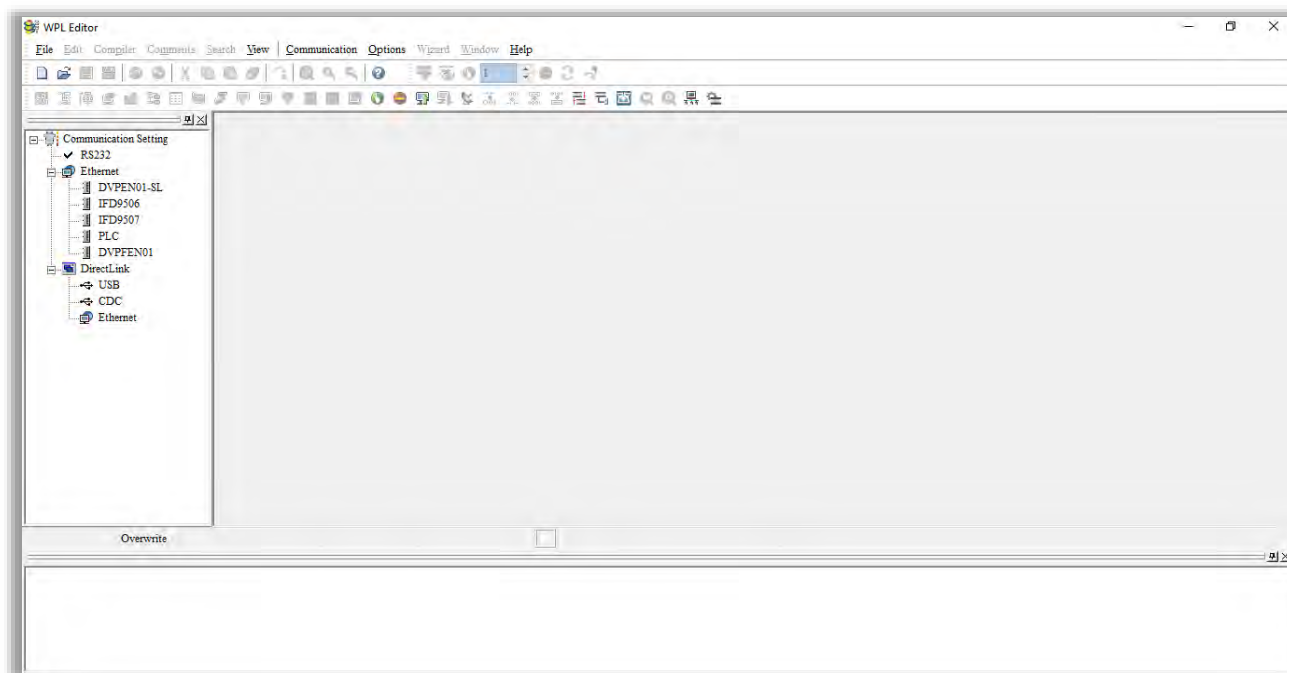

Figure 16-2
Step 2: The WPLSoft editing window appears (see Figure 16-2 below). When running WPLSoft for the first time, before "New file" has been used, only the "File (F)," "Communications (C)," "View (V)," "Options (O)," and "Help (H)" columns will appear on the function toolbar.